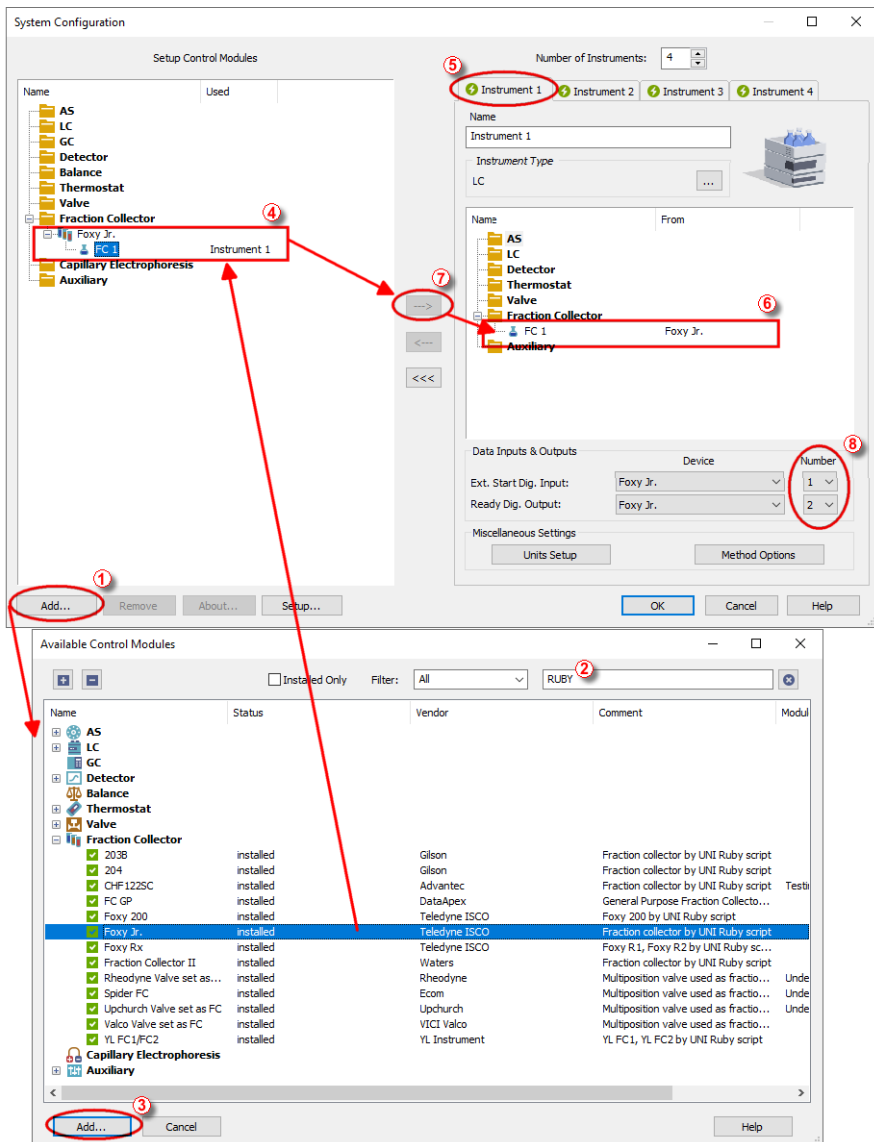

Fig 3: How to add Teledyne Foxy Jr
- Press the **Add** button (① on **Fig 3** on pg 4.) to invoke the **Available Control Modules** dialog.
- You can specify the search filter (②) to simplify the finding of the driver.
- Select the correct item and press the **Add** (③ on **Fig 3** on pg 4.) button. Each device with already created UNI profile should have its own item named accordingly in the **Available Control Modules** dialog.